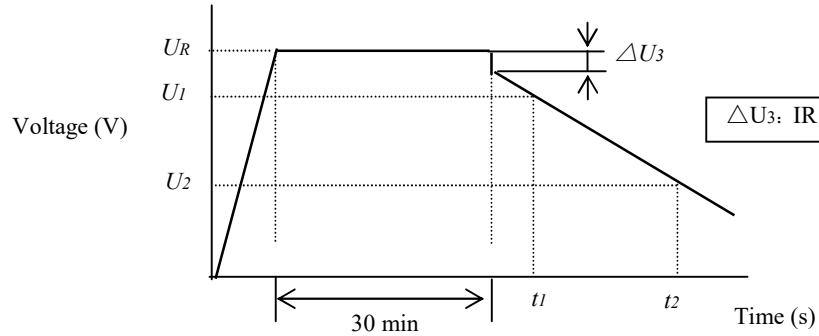

Figure 2- Voltage characteristic between capacitor terminals
3.2	<p><Condition> Constant current discharge method: Measuring circuit:</p> <div style="display: flex; align-items: center; justify-content: center;"> <div style="text-align: center; margin-right: 10px;"> <p>Constant current / constant voltage power supply</p> </div> <div style="margin-left: 10px;"> <p>Constant Current Discharger</p> </div> </div> <p style="margin-left: 20px;">Key</p> <ul style="list-style-type: none"> d.c. ammeter d.c. voltmeter S changeover switch Cx capacitor under test <p style="text-align: center;">Figure 1- Circuit for constant current discharge method</p> <p>Measuring method</p> <ol style="list-style-type: none"> a) Set the d.c.voltage at the rated voltage (U_R) b) Set the constant current value of the constant current discharger to the discharge current specified in Table 1. c) Turn the switch S to the d.c.power supply ,apply voltage and charge for 30 min after the constant current / constant voltage power supply has achieved the rated voltage. d) After a charge for 30 min has finished ,change over the switch S to the constant current discharger ,and discharge with a constant current. e) Measure the time t_1 and t_2 where the voltage between capacitor terminals at the time of discharge reduces from U_1 to U_2 as shown in Figure 2 ,and calculate the capacitance value by the following formula: